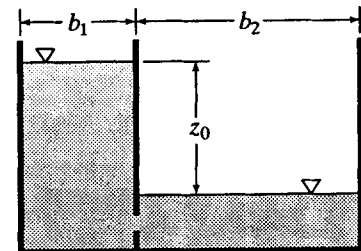

Figure X12.2.7
12.2.8 The tank in Fig. X12.2.7 has vertical sides, $b_1 = 3.6\text{ m}$, $b_2 = 7.2\text{ m}$, $z_0 = 4.2\text{ m}$, and its dimension normal to the plane of the paper is $a = 1.8\text{ m}$. The vertical dividing plate has a submerged orifice 0.063 m^2 in area ($C_d = 0.65$). How long will it take for the two water surfaces to equalize?
See Fig. X12.2.7 with Solution 12.2.7.